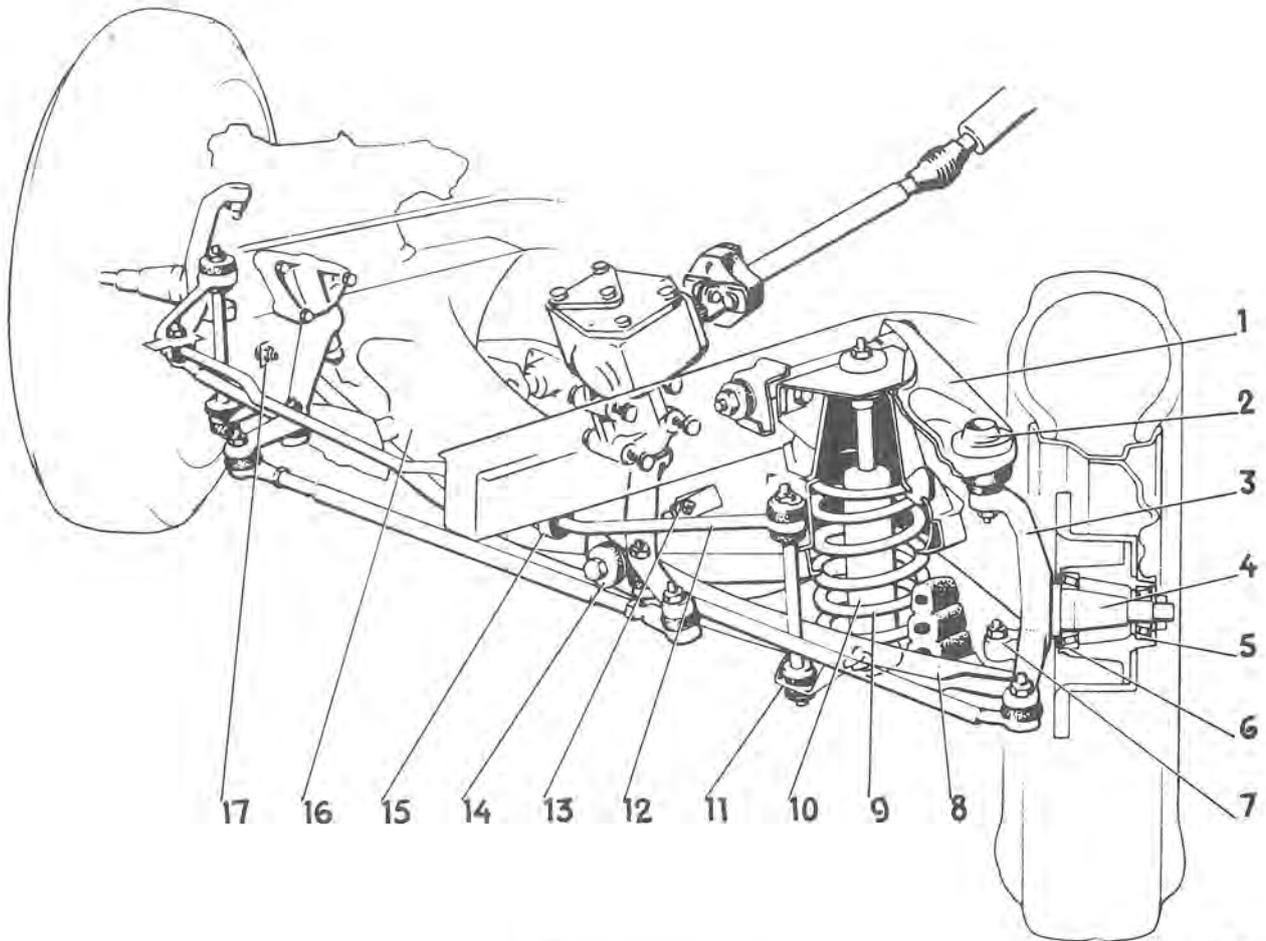

Fig. 6-12. Front axle
The vehicle has independent front wheel suspension. This means that there is no actual front axle, this being replaced by a strong box-section front axle member. This member is bolted to the self-supporting body and the front wheel suspension and springs are fitted at the ends of the member. The construction is illustrated in Fig. 6-12.
The front wheels are carried in taper roller bearings (5 and 6, Fig. 6-12). The front spring assembly consists of coil springs (9) inside which telescopic shock absorbers (10) are fitted. In order to increase its anti-rolling properties, the car is equipped with a stabilizer (12), which is anchored partly to the lower wishbones (11) and partly to the body (15).